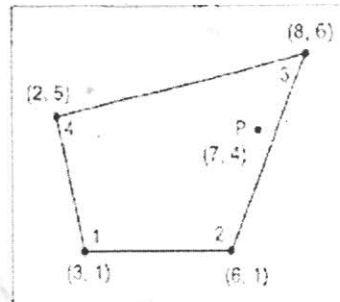

Fig.Q5(b)
b)	Determine the local coordinated of point 'P' for isoparametric quadrilateral element having a Cartesian coordinate (7,4) as shown in the Fig.Q5(b)